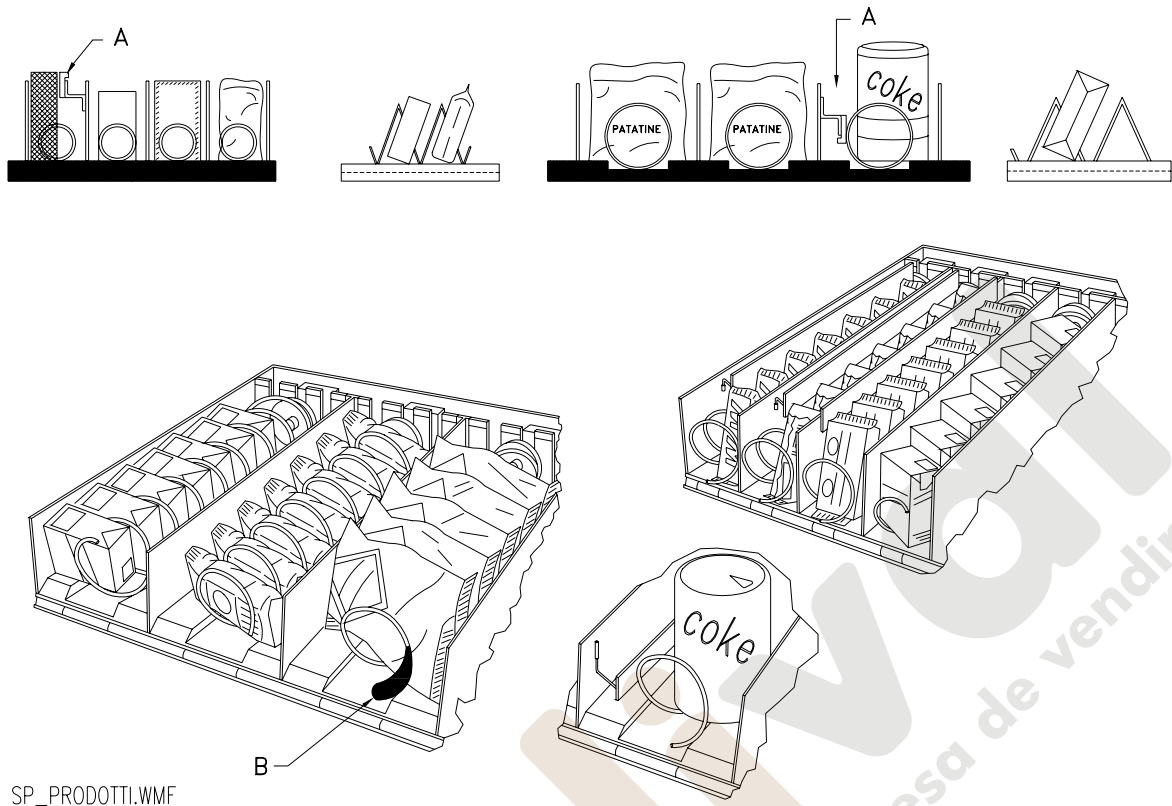

FIG. 4
7.3 DISTANCIADORES DE PRODUCTOS EN CAJONES (FIG. 4)
7.4 EXPULSOR DE PRODUCTOS (FIG. 4)